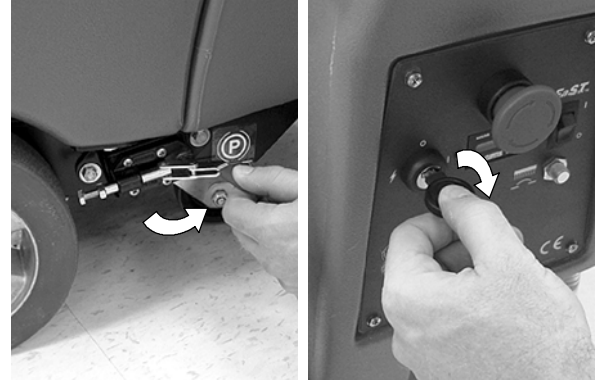

FIG. 13
1. Release the parking brake (Figure 13).
2. Turn the main power key switch to the on (I) position (Figure 13).